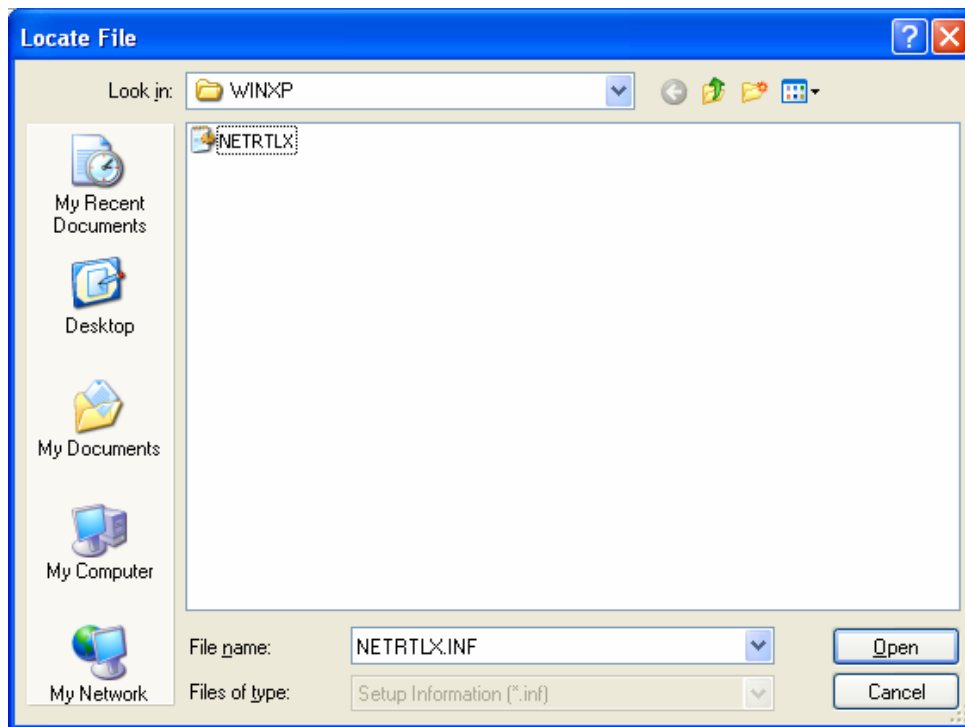

Figure 2-7
Step 6: After that, select **Browse...** as shown in Figure 2-7 to locate the driver in the next screen.